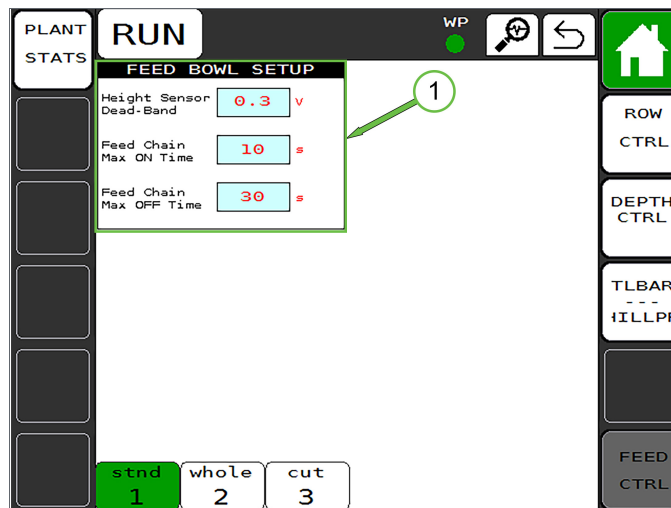

Figure 23
Touch the (3) Settings key to access the Feed Control settings screen. (see Figure 23)